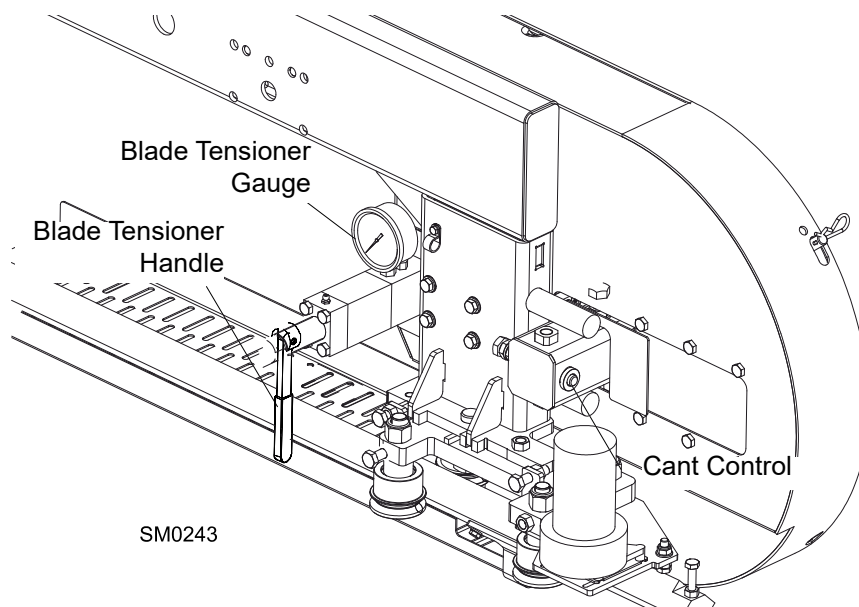

FIG. 2-12
See Figure 2-12. Tension the blade by turning the hydraulic tensioning handle clockwise until the tension gauge indicates the recommended tension.
4. To adjust where the blade travels on the blade wheels, use the cant control shown in **Figure 2-12**.